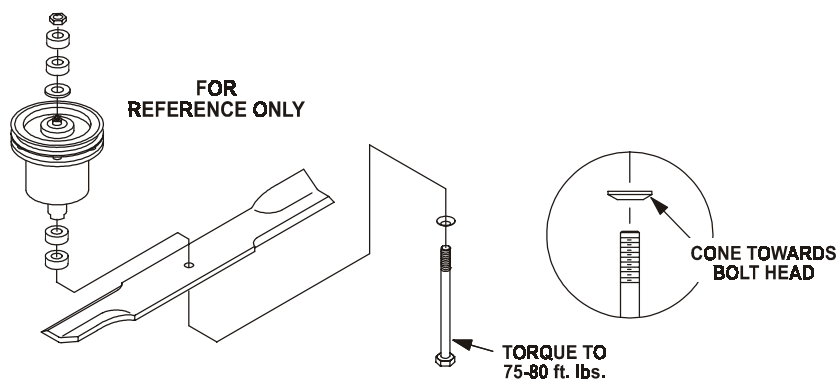

FIG. 6
- g) Re-install the blades (if they were removed) and torque blade bolts to 75-80 ft.lbs. Be sure the spring disk washer cone is installed toward the bolt head (See Figure 6).